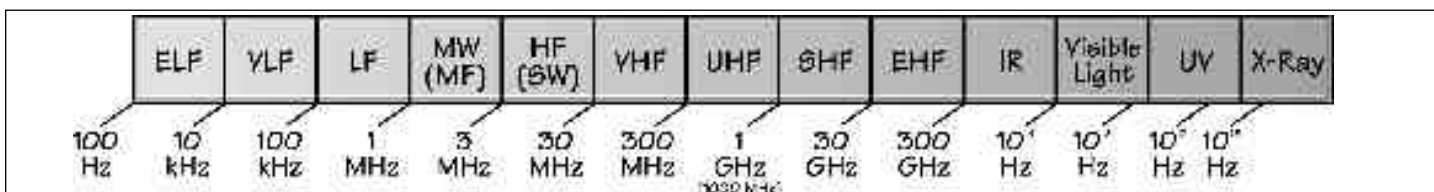

figure 1: Usable Electromagnetic Spectrum
Radio frequency (RF) does not refer just to radio broadcasting but rather encompasses all of the electromagnetic spectrum. RF energy is classified according to frequency. The range of frequencies is called the *Radio Spectrum*. While there is no precise beginning or end to frequencies making up the RF spectrum, figure 1 shows the generally accepted ranges and class designations.